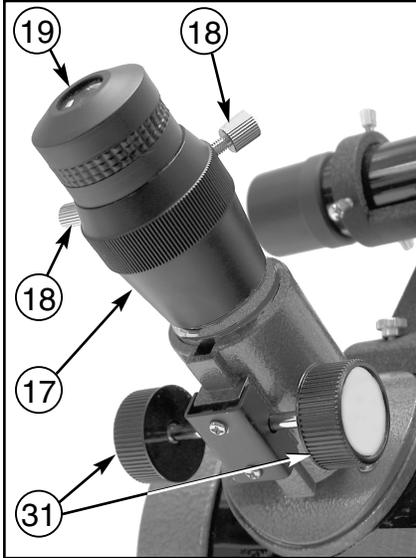
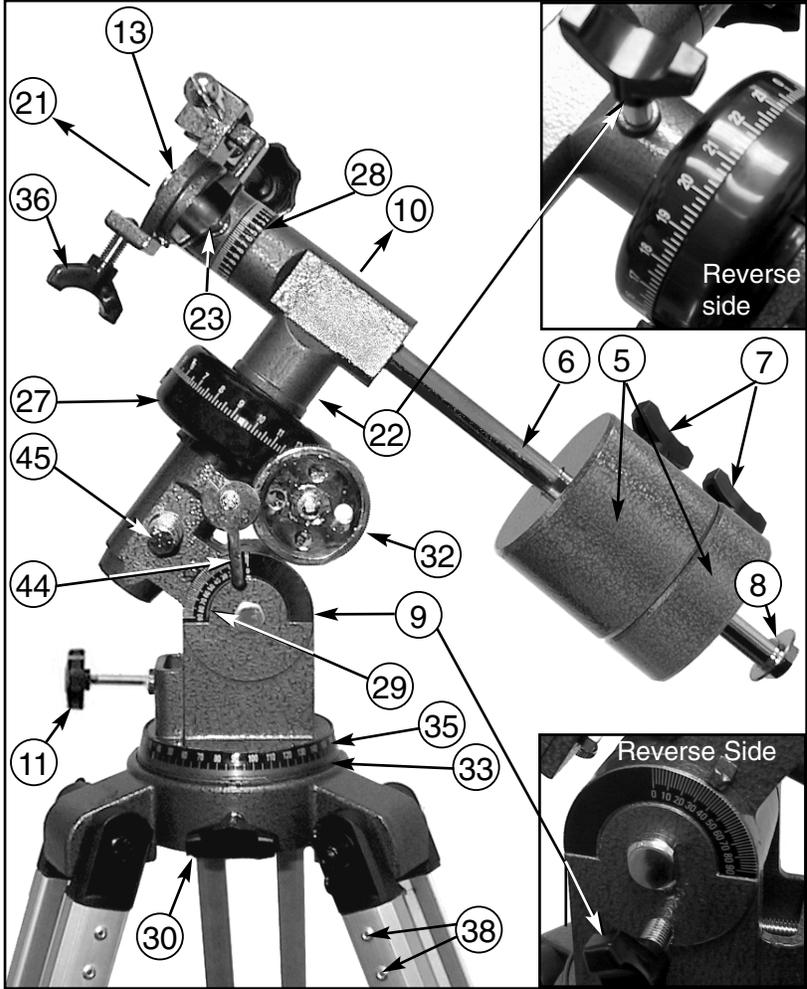
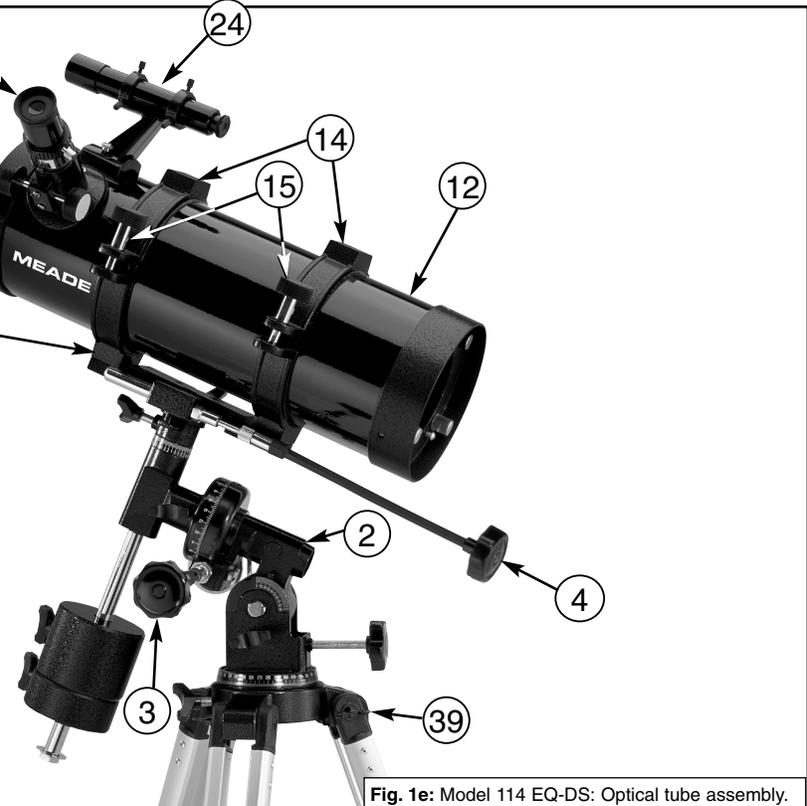
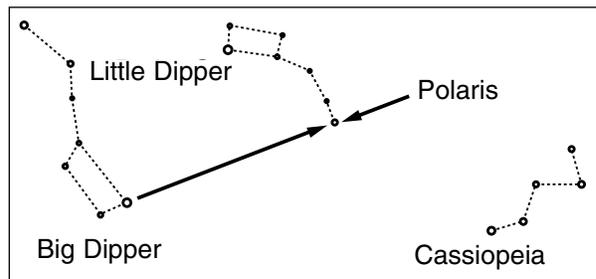

Fig. 1b: Model 114 EQ-DS: Focuser.
Fig. 1c: Model 114 EQ-DS: Equatorial mount.
Fig. 1e: Model 114 EQ-DS: Optical tube assembly.
Fig. 3: Locating Polaris.
In order for the telescope to move smoothly on its mechanical axes, it must first be balanced about the 2 telescope axes: the polar axis (**10, Fig. 1c**) and the Declination axis (**21, Fig. 1c**). All motions of the polar aligned telescope (more on this later) take place by moving about these two axes, separately or simultaneously. To obtain a fine balance of the telescope, follow the method below:
- Loosen the R.A. lock (**22, Fig. 1c**) and rotate the telescope so that the counterweight shaft (**6, Fig. 1c**) is parallel to the ground (horizontal).
- Slide the counterweight along the counterweight shaft until the telescope remains in one position without tending to drift down in either direction. Then tighten the counterweight lock knob (**7, Fig. 1c**), locking the counterweight in position.
- Lock the R.A. lock (**22, Fig. 1c**), and unlock the Declination lock (**23, Fig. 1c**). The telescope will now turn freely about the Declination axis. Loosen the cradle ring lock knobs (**15, Fig. 1e**) so that the main tube in the cradle rings slides easily up-or-down in the cradle rings. Move the main tube in the cradle rings until it is balanced rotationally about the Declination axis. Re-lock the knobs (**15, Fig. 1e**).
- Remove the telescope front dust cover (**25, Fig. 1e**), and the dust covers of the viewfinder.
- Unlock the R.A. lock (**22, Fig. 1c**) and the Dec. lock (**23, Fig. 1c**) so that the telescope turns freely on both axes. Then point the main telescope at some well-defined land object (e.g. the top of a telephone pole) at least 200 yards distant, and re-lock the R.A and Dec. axes. Turn the flexible cable controls, (**3, Fig. 1e**) and (**4, Fig. 1e**), to center the object in the telescopic field.
The celestial map also contains two poles and an equator just like a map of the Earth. The poles of this coordinate system are defined as those two points where the Earth's North and South poles (*i.e.*, the Earth's axis), if extended to infinity, would cross the celestial sphere. Thus, the North Celestial Pole (see **Fig. 3**) is that point in the sky where an extension of the North Pole intersects the celestial sphere. The North Star, Polaris, is located very near the North Celestial Pole. The celestial equator is a projection of the Earth's equator onto the celestial sphere.
With all celestial objects therefore capable of being specified in position by their celestial coordinates of Right Ascension and Declination, the task of finding objects (in particular, faint objects) in the telescope is vastly simplified. The setting circles, R.A (27, Fig. 1c) and Dec. (28, Fig. 1c) of the Polaris 114 EQ-DS telescope may be dialed, in effect, to read the object coordinates and the object found without resorting to visual location techniques. However, these setting circles may be used to advantage only if the telescope is first properly aligned with the North Celestial Pole.
1. Release the Azimuth lock (30, Fig. 1c) of the Azimuth base (33, Fig. 1c), so that the entire telescope-with-mounting may be rotated in a horizontal direction. Rotate the telescope until the polar axis (10, Fig. 1c) points due North. Locate Polaris, the North Star (see Fig. 3), as an accurate reference for due North.
3. Determine the latitude of your observing location by checking a road map or atlas. Release the latitude lock (9, Fig. 1c) and tilt the telescope mount with the latitude adjustment knob (11, Fig. 1) so that the pointer indicates the correct latitude of your viewing location on the latitude scale (29, Fig. 1c). Re-tighten the latitude lock (9, Fig. 1c).
4. Without moving the telescope on the Right Ascension and Declination axes, loosen the azimuth and latitude locks (9 and 30, Fig. 1c) and adjust the telescope until Polaris is centered in the telescope eyepiece. If steps 1 - 3 above were performed with reasonable accuracy, your telescope is now sufficiently well-aligned to the North Celestial Pole for visual observations.
- To center an object in the main telescope, loosen the telescope's R.A. lock (**22, Fig. 1c**) and Dec. lock (**23, Fig. 1c**). The telescope can now turn freely on its axes. Use the aligned viewfinder to first sight-in on the object you wish to observe; with the object centered on the viewfinder's crosshairs, re-tighten the R.A. and Dec. locks.
- Once centered, the object can be focused by turning one of the knobs of the focusing mechanism (**31, Fig. 1b**). You will notice that the astronomical object in the field of view will begin to slowly move across the eyepiece field. This motion is caused by the rotation of the Earth on its axis, as described in Section C, although the planets and stars, are, for practical purposes, fixed in their positions in the sky. The platform on which the telescope is sitting (the Earth) rotates once every 24 hours under these objects. **To keep astronomical objects centered in the field of the polar aligned telescope, simply turn the R.A. flexible cable control (3, Fig. 1e).** These objects will appear to move through the field more rapidly at higher powers. Note that the Declination flexible cable control (**4, Fig. 1e**) is used only for centering purposes, and not for tracking.
- Manually turn the R.A. setting circle (**27, Fig. 1c**) to read the R.A. of the object now in the telescope's eyepiece.
- The setting circles are now calibrated (the Dec. setting circle (**28, Fig. 1c**) is factory calibrated). To locate a nearby faint object using the setting circles determine the faint object's celestial coordinates from a star chart, and move the telescope in R.A. and Declination until the setting circles read the R.A. and Dec. of the object you are attempting to locate. If the above procedure has been carefully performed, the faint object will now be in the field of a low power eyepiece.
The supplied 3X Barlow lens triples the power of each eyepiece. Insert the 3X Barlow lens into the the eyepiece holder (**17, Fig. 1b**), followed by the eyepiece, and secure by tightening the respective thumbscrews. For example, the 25mm (40X) eyepiece, when used with the 3X Barlow Lens, yields 120X.